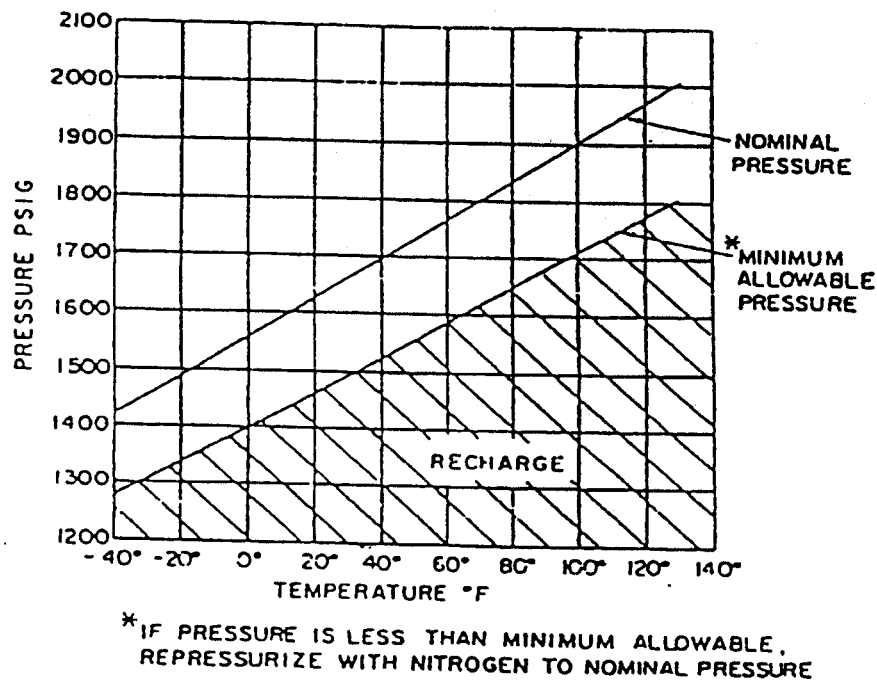

Figure 6.10.1 . Nitrogen Temperature vs. Pressure Data
6.10.3 Nitrogen Cylinder Recharge. Nitrogen cylinders must be recharged when cylinder pressure gauge indicates pressure is below normal (1800 PSIG at 70°F [124 bars gage at 21°C] or as adjusted for temperature as shown on Figure 6.10.1) or immediately after discharge. Nitrogen used for charging must comply with Federal Specification BB-N-411C, Grade A, Type 1. Copies of this specification may be obtained from: Global Engineering Documents, 2625 S. Hickory St., Santa Ana, CA 92707.
7. Open valve and add additional nitrogen as necessary to obtain full cylinder charge at ambient temperature (1800 PSIG at 70°F [124 bars gage at 21°C]). Refer to Figure 6.10.1.